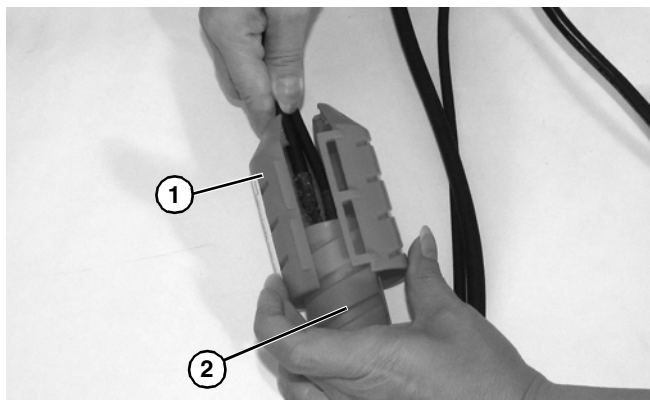

Figure 10
2. Remove outer cord cover (**Figure 10, item 1**) from inner cord cover (**Figure 10, item 2**).